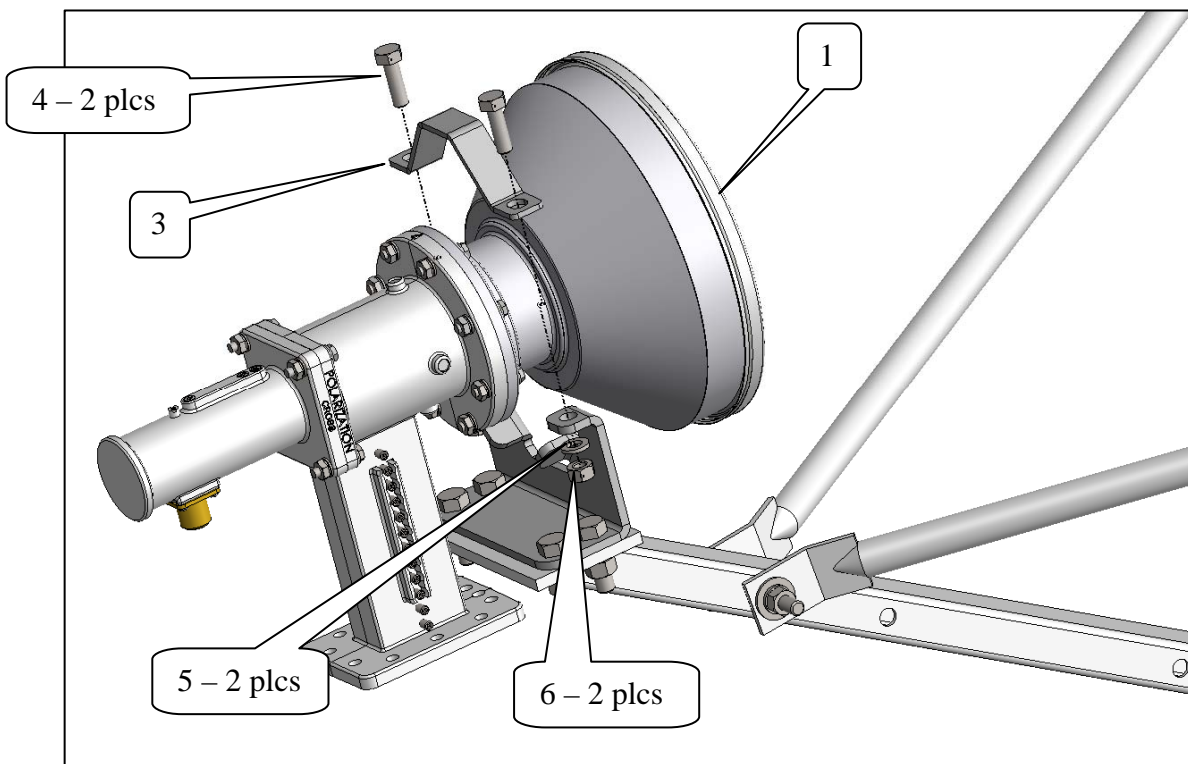

Figure 2.1-2
- Step 3:** Place the neck of the feed horn/OMT assembly (item #1) into the feed mounting bracket and secure with the top mounting bracket (item #3) using [2] 5/16-18 x 1.00" bolts, [2] lock washers, and [2] 5/16-18 hex nuts (item #4,5,6) as shown in Figure 2.1-2. Snug but do not tighten until after final polarization adjustment has been made.